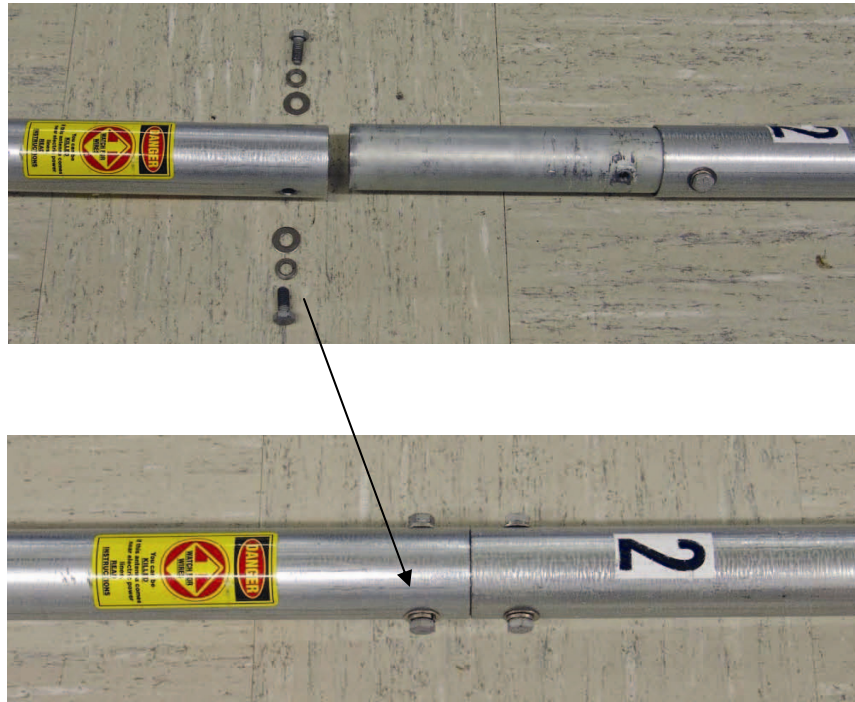

FIGURE 2.2-5. Coupler Installed in Top of Mast Section 1
Step 4: Insert the Section 2 coupler into the top of Section 1 (see Figure 2.2-5).